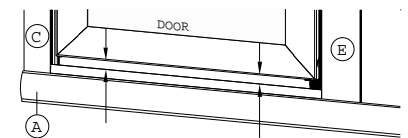

figure 5
10. Attach the Door Handles (L) to the door using two(2) Door Handle Screws (M) as shown in exploded view - sheet 1.
11. From interior, secure both ends of Header to Wall Jamb using one 638THS Screws (V) at each end. Screw (V) is not self drilling, so pre-drill pilot holes using a 7/64" drill bit. To prevent glass breakage when drilling the Header, temporarily slide glass panel away from Wall Jamb. When done, re-center glass panel as before.
13. Adjust Door Assembly and Strike Post as needed for proper Door operation. Note: Door Assembly bottom must always remain parallel to Sill in order for door to operate properly as shown in figure 5. When satisfied with door operation, secure Hinge Post (h1) and Strike Post (F) to the Inline Posts (E) using 638PHPT Installation Screws (O).